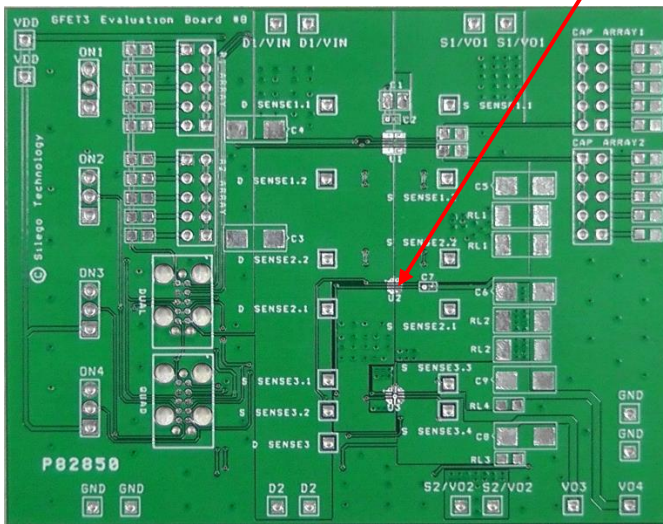

Figure 3. SLG59M1638V Evaluation Test Board
2.2. The D/VIN and S/VOUT pins carry significant current. Please note how the D/VIN and S/VOUT pads are placed directly on the power planes in Figure 3, which minimizes the RDS(ON) associated with long, narrow traces. The D/VIN and S/VOUT pins dissipate most of the heat generated during high-load current condition. The layout shown in Figure 3 is illustrating a proper solution for heat to transfer as efficiently as possible out of the device.